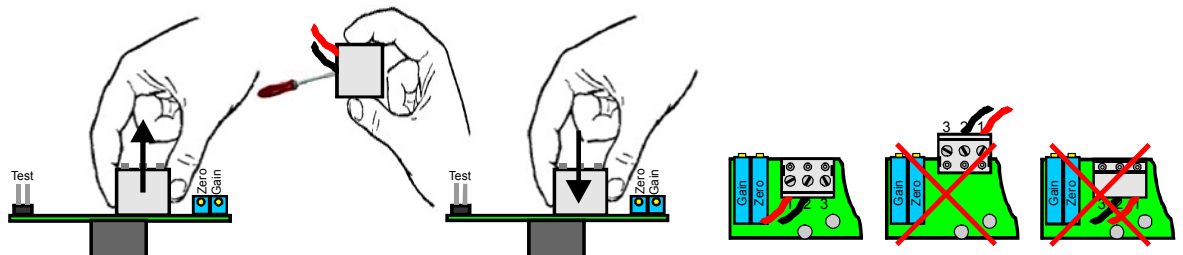

Fig.3 Electric Connection
- Plug in the socket board correctly. See fig.3.
Socket board not plugged in correctly	Plug in the socket board acc. to fig.3.